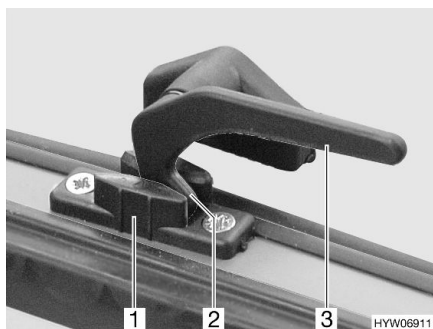

Fig. 29 Catch lever in the "continuous ventilation" position
- "Continuous ventilation" (Fig. 29)
- Turn the catch lever (Fig. 29,3) a quarter turn towards the centre of the window.
- Return the catch lever to its initial position. The locking catch (Fig. 29,2) has to be moved into the recess of window catch (Fig. 29,1).